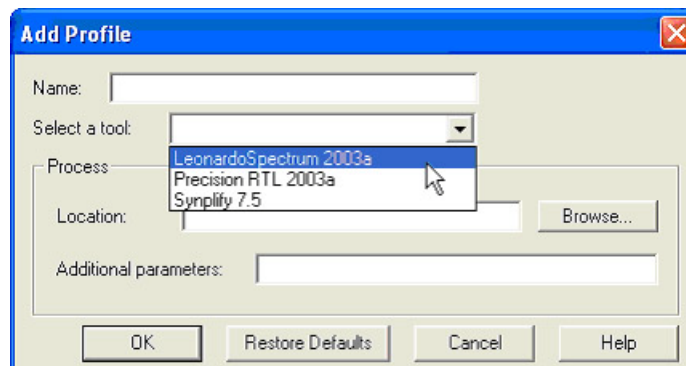

Figure 7-5 • Add Profile Dialog Box in Libero IDE
9. Click the **Add** button to add a different Synthesis, Simulation, or Stimulus tool. If you wish to add a tool, Libero IDE opens the **Add Profile** dialog box (Figure 7-5).